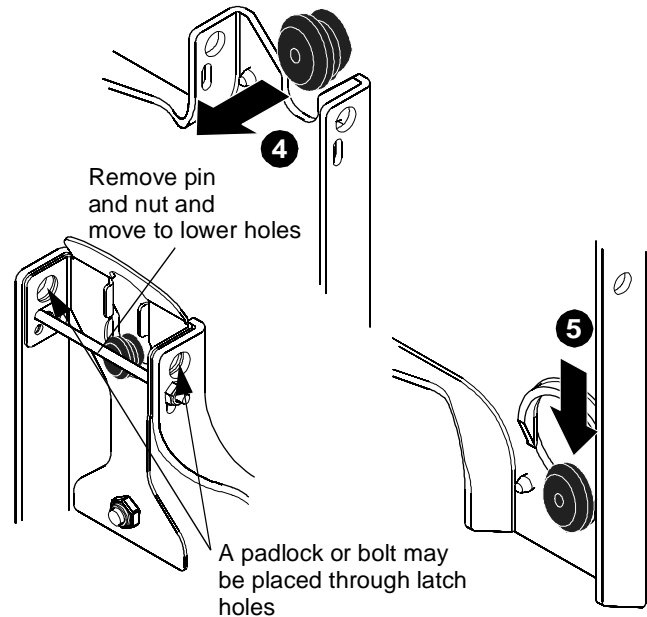

Figure 8.
**NOTE:** Holes are provided in the faceplate for use with a padlock or similar locking device, if desired. In addition, the pin and nut may be removed from the upper holes and moved to the lower holes for use as a more permanent locking device. (See Figure 8)